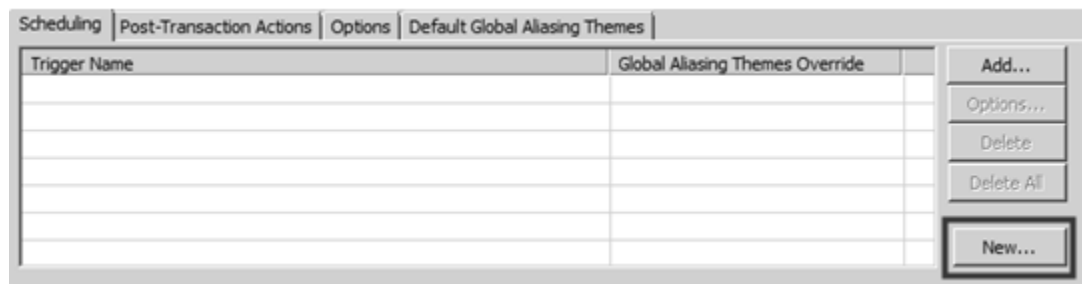

Figure L6.2 - New Trigger
3. With the Scheduling tab selected, click on the **New...** button as shown in Figure L6.2, to open the Unified Data Manager.